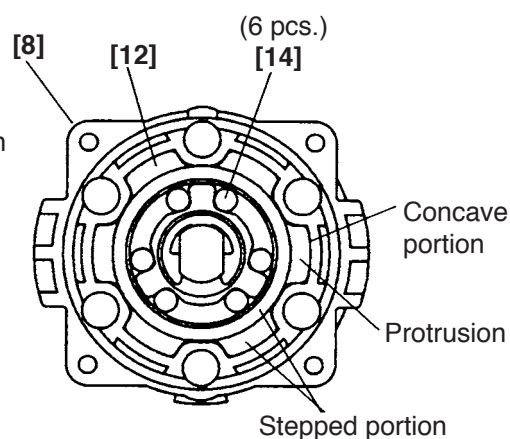

Fig. 5
(a) Mount the Lock Ring [12] to the Front Case [8] so that the protrusion of the Lock Ring [12] aligns with the concave portion of the Front Case [8] (see Fig. 5). At this time, mount the Lock Ring [12] so that the stepped protrusion faces forward.
(b) Mount Needle Roller (C) Set (6 pcs.) [14] (see Fig. 5).